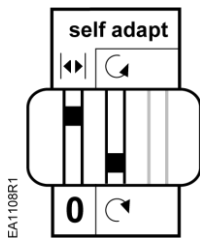

Figure 12. Self-adapt Switch in the On Position.
1. To use the entire 0 to 10V input signal to control the adjusted range, raise the tab located on the lower left-hand side of the actuator and locate the DIP switches. See Figure 12.